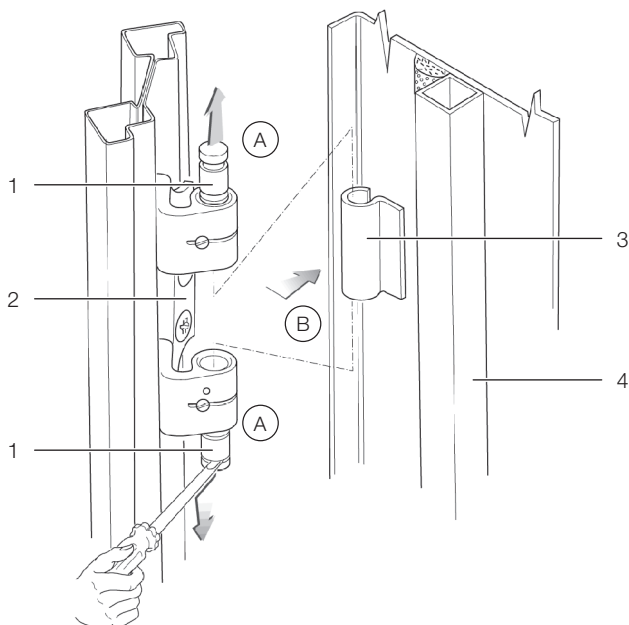

Fig. 12: Removing a door hinge
- Loosen the hinge bolts from the four door hinges by raising them with an appropriate tool (e.g. screwdriver). Pull the bolts out of the hinge pin holding fixture as far as they will go (see fig. 12, step A). Begin with the lowest door hinge.
- Remove the server enclosure door (fig. 12, step B).